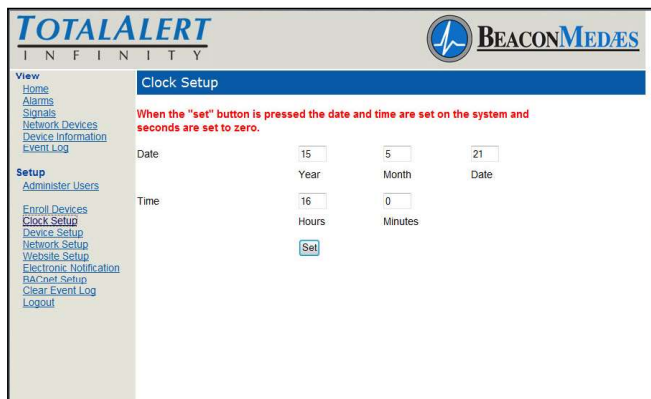

Figure 196: Clock Setup
1. Click Clock Setup to access the Clock Setup page (Figure 196).